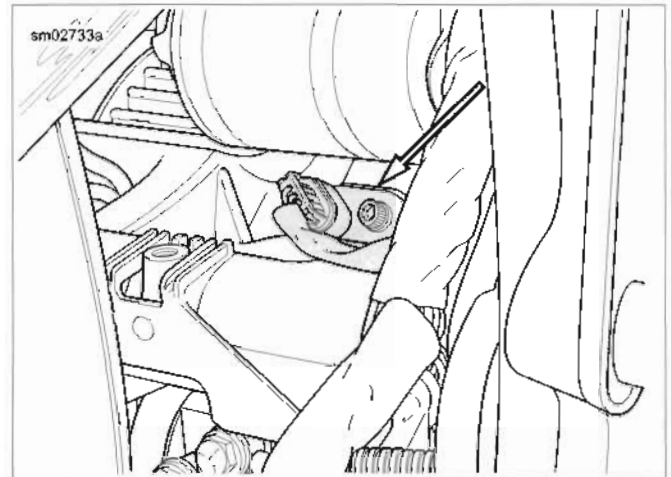

Figure 7-87. Vehicle Speed Sensor
4. See Figure 7-87. Disconnect 3-place vehicle speed sensor connector [65].
1. See Figure 7-87. Install sensor into transmission case using mounting bolt. Tighten to 84-108 in-lbs (9.5-12.2 Nm).